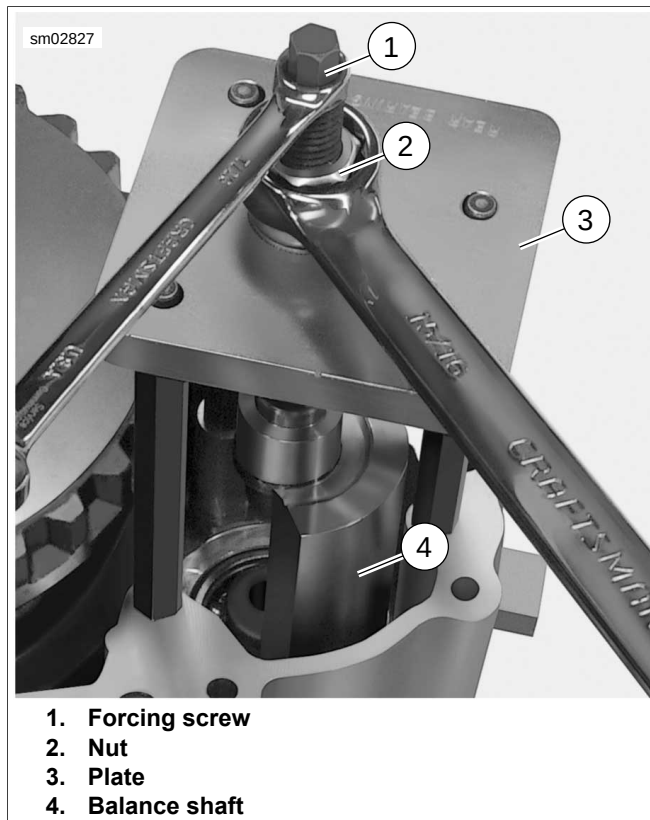

Figure 3-152. Removing Balance Shaft
3. See Figure 3-152. While holding forcing screw (1) from turning, turn nut (2) to remove balance shaft (4) and bearing from crankcase.